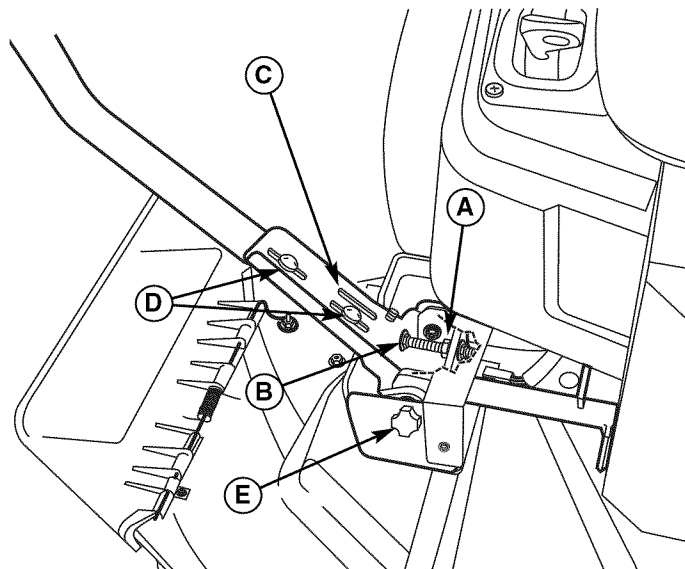

Figure 36. Control Lever Adjustment
**To Adjust Control Lever Height:** Pull the levers in across the operator's lap to their DRIVE positions. Loosen the mount bolts (D, Figure 36) and raise or lower the levers to the desired position. Tighten the mounting bolts.(D).
**To Adjust Control Lever End Gap:** The control lever end gap should be adjusted so that the levers do not contact each other when placed in DRIVE positions. Loosen the jam nut (A, Figure 36) and adjust the length of the carriage bolt (B) so that the levers do not contact each other. Repeat on the opposite side. Tighten the jam nut (A) to lock the carriage bolt in position.
**To Adjust Operator Clearance:** The space between the operator and the control levers can be increase by removing the lower mounting bolt (D, Figure 36), pivoting the lever forward, and reinstalling the capscrew through the control lever and forward slot (C). Repeat with the other ground speed lever.
If the rider veers to the right or left when the ground speed control levers are in the maximum forward position, the top speed of the right lever can be balanced by turning the adjustment knob (E, Figure 36). Loosen the jam nut and turn the knob COUNTERCLOCKWISE to increase speed or CLOCKWISE to decrease speed. Tighten the jam nut when complete.